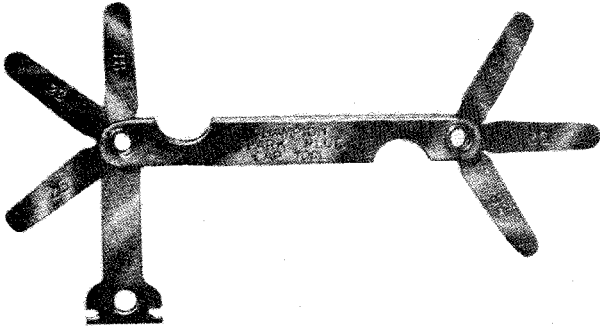

Fig. 44 The Champion Spark Plug Gap Tool.
- (h) Next, we are ready for resetting the electrodes (Fig. 44). Remember that electrode corrosion and oxides at gap area vitally affect spark efficiency. The cleaner can remove the oxides and deposits from the insulator, but because of gap location, the cleaner stream cannot always reach this area with full effect, also, the tenacious adhesion of corrosion, etc., would require too much subjection to clean blast for removal. Therefore, when plugs are worthy of further use, it is sometimes good practice to dress the gap area, on both centre and side electrodes, with a small file before resetting to correct gap. Resetting of electrodes should be part of service during useful life of the